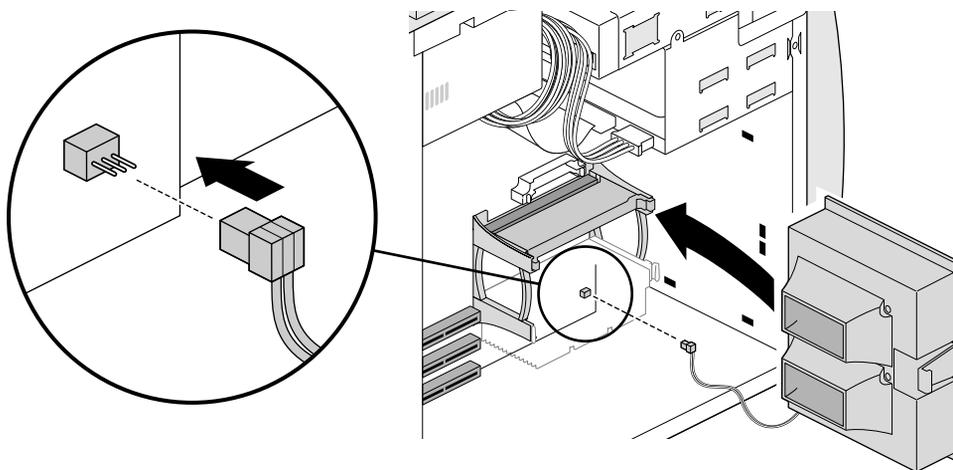

Figure 7-9 Installing the Fan
2. Install the new fan, as shown in Figure 7-9.